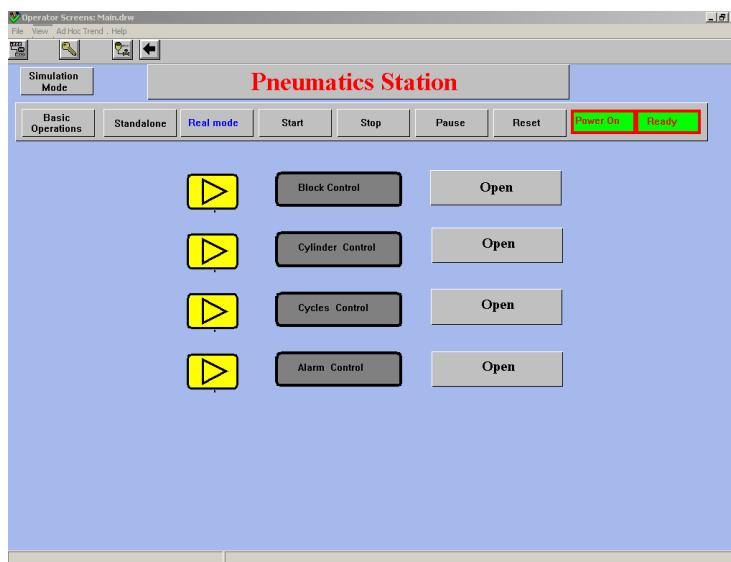

Figure 9-34: Pneumatics Station
8. Click **Restart**. Pneumatics Station window (shown in Figure 9-34: Pneumatics Station) is displayed in the background. Click **Close** to close the Vuniq Application Manager window.